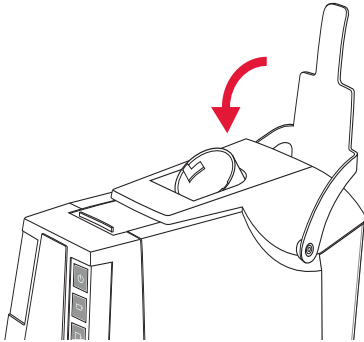

Figure 5
6. Close the handle. See figure 5.
7. Rotate the capsule holder clockwise (towards the lock position) until you hear and feel it click into the locked position. See figure 5.